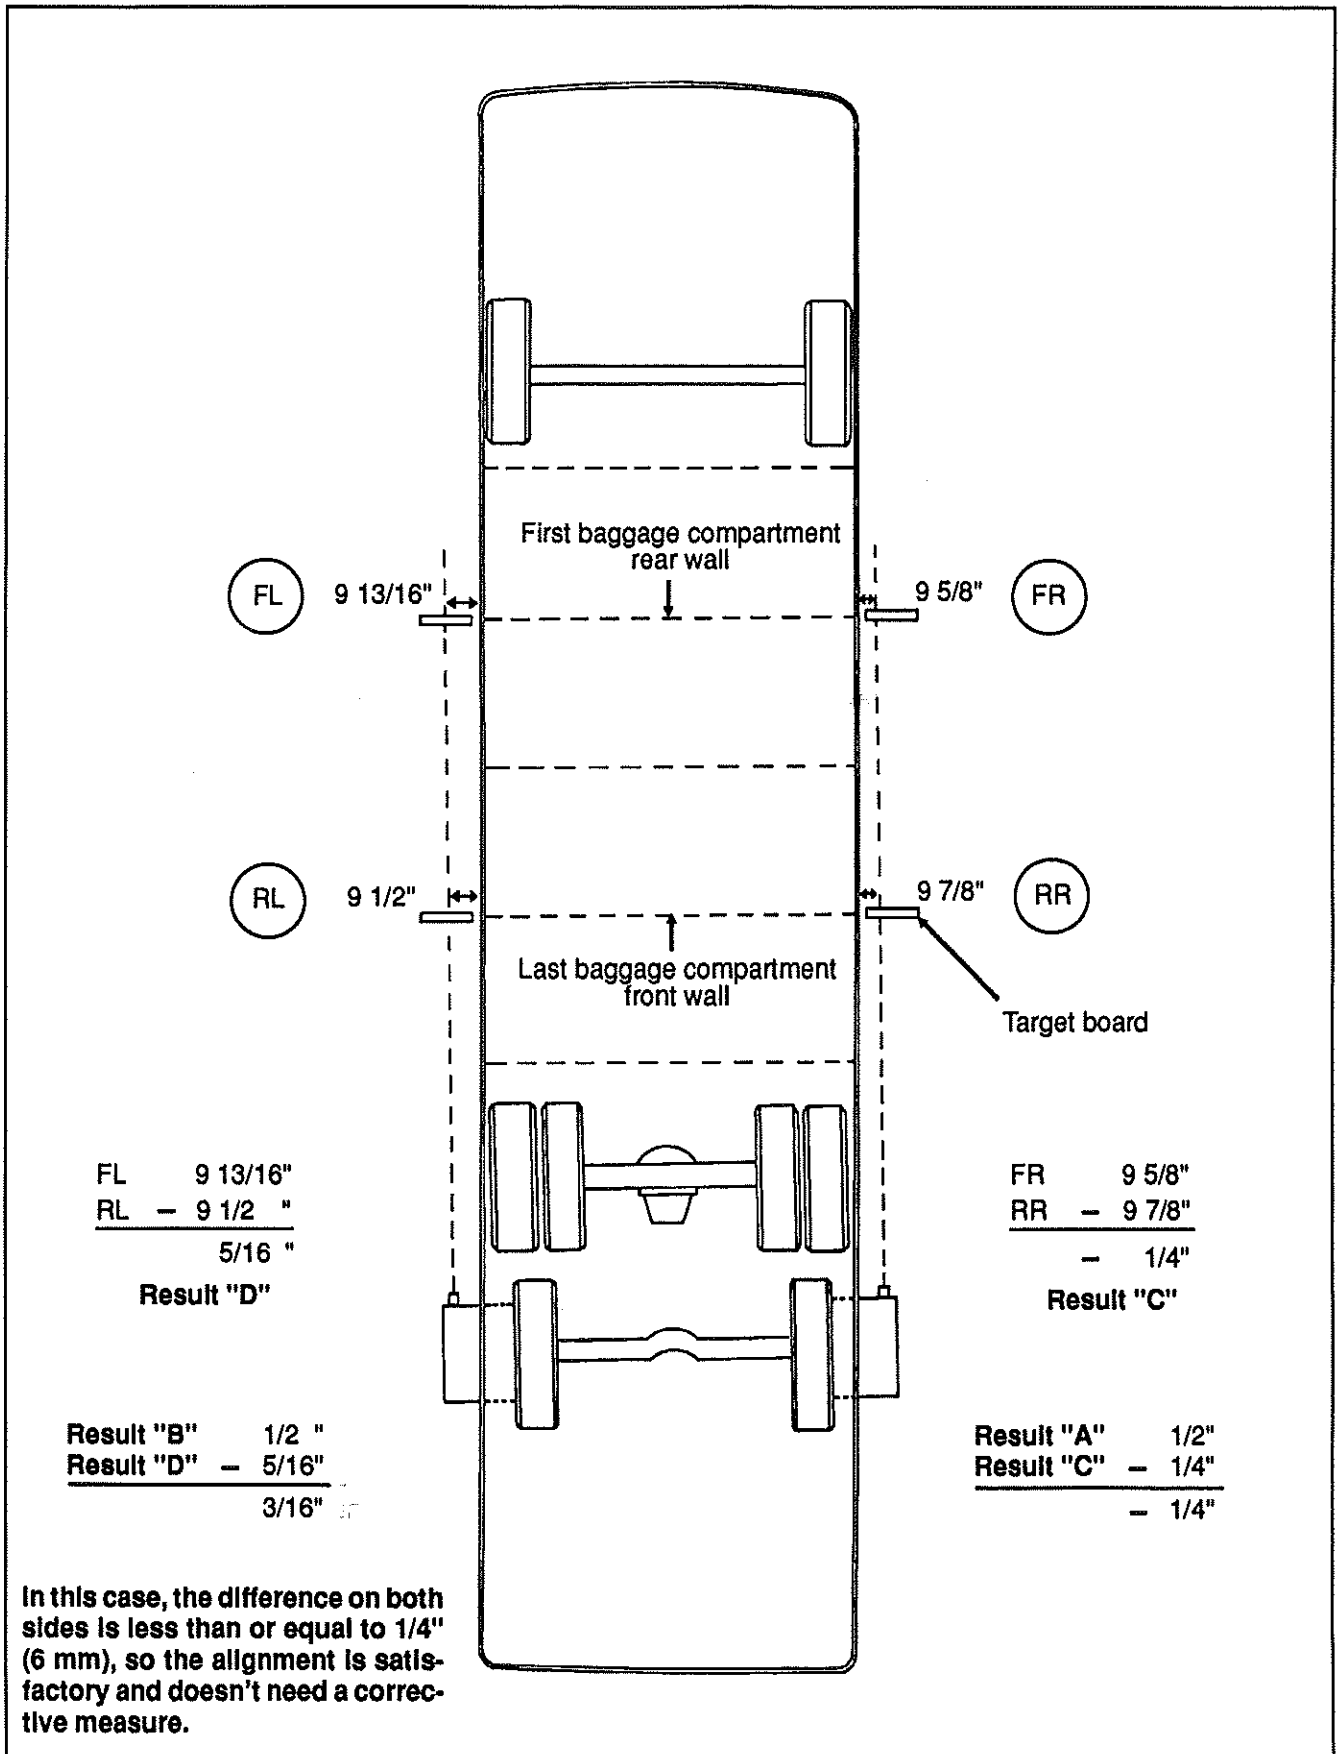

FIG. 3 - Demonstration of tag axle alignment check (intentional misalignment of rear axles for a better understanding)
5. Install a target board on each side of vehicle, at level of the last baggage compartment front wall (see installation in fig. 3).
7. Aim the projector on the target board, then measure distance between target center line (provided by the projector) and the frame post located right beside the target board. Note measure, then repeat on the other side (refer to fig. 3). Dimensions obtained are identified RR on rear right hand side and RL on rear left hand side.
8. Move target boards toward front of vehicle, i.e. at level of the first baggage compartment rear wall (see installation in fig. 3).